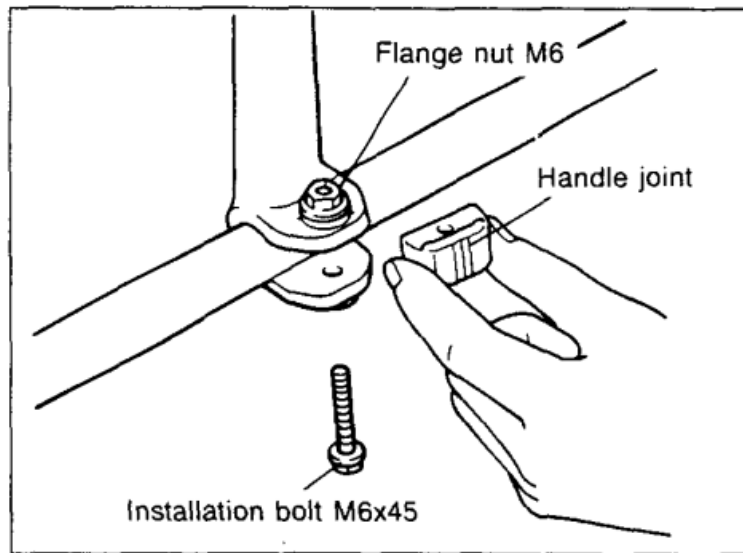

Fig. 1
### Mounting the handle (Fig. 1)
2. Install the handle joint on the handle as shown in Fig. 1.